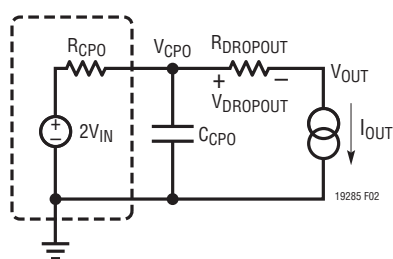

Figure 2. Equivalent Circuit
**Note 3:** Dropout voltage is the minimum input/output voltage required to maintain regulation at the specified output current. In dropout the output voltage will be equal to:  $V_{CPO} - V_{DROPOUT}$  (see Figure 2).
The maximum available current can be calculated based on the open circuit CPO voltage, the dropout voltage of the LDO and the effective output resistance of the charge pump. The open circuit CPO voltage is approximately  $2V_{IN}$  (see Figure 2).